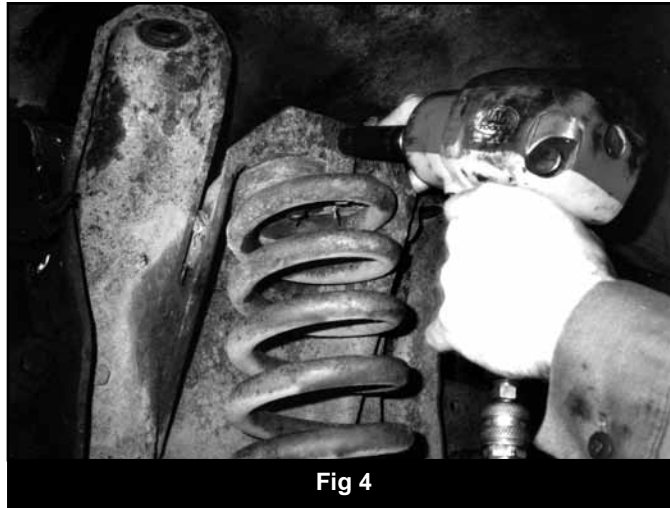

Fig 4
12. Remove the top two bolts from the top of the spring tower (Fig. 4). Loosen the two bolts at bottom of spring. Lower the front axle to allow the coil to be removed. Twist the original coil out by turning the coil counter clockwise.